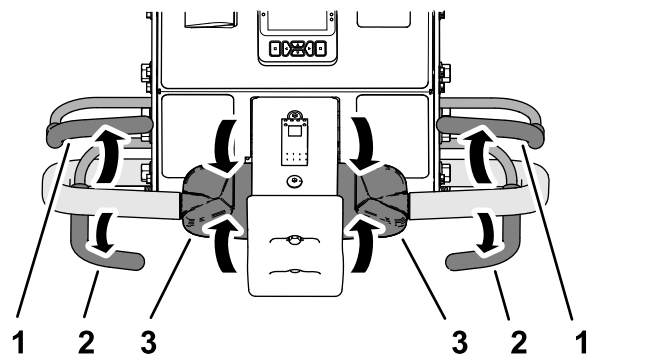

Figure 79
1. If you are aerating, release the aerate bail (Figure 79) to raise the coring head; refer to Raising the Coring Head (page 46).